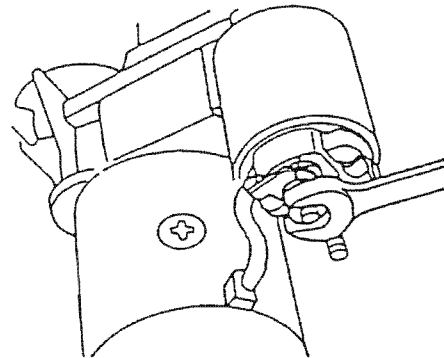

Figure 11-32
12. Reinstall the two M4 through bolts (Figure 11-32). Securely tighten the through bolts. Reconnect the wire to the magnetic switch assembly. Tighten the M8 nut. Reinstall the cover over the connection.